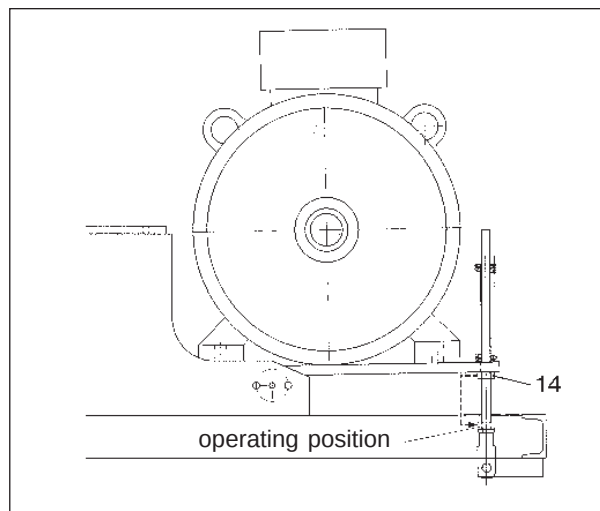

Fig. 27
When replacing the V-belt set, the automatic tensioning system can be stress-relieved by means of the nut (14) (fig. 27). After the replacement of the V-belts, the nut (14) has to be returned to the "operation" position (mechanical stop of the fork and clevis combination (13)).